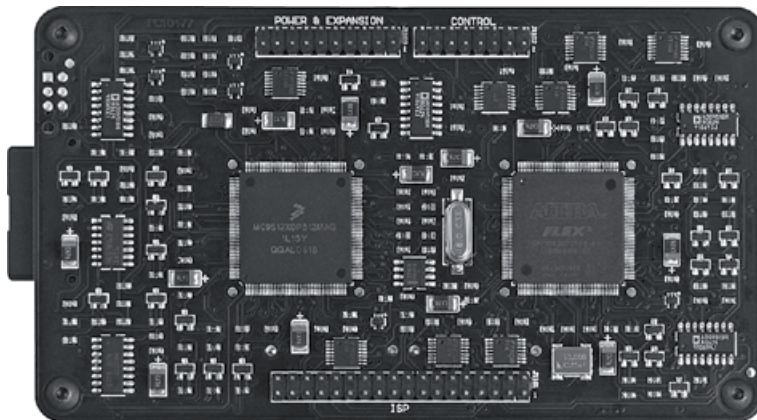

Figure 1.3: FlashRunner Bottom Layer (Connectors Side)
- Figure 1.3: FlashRunner Bottom Layer (Connectors Side) 14